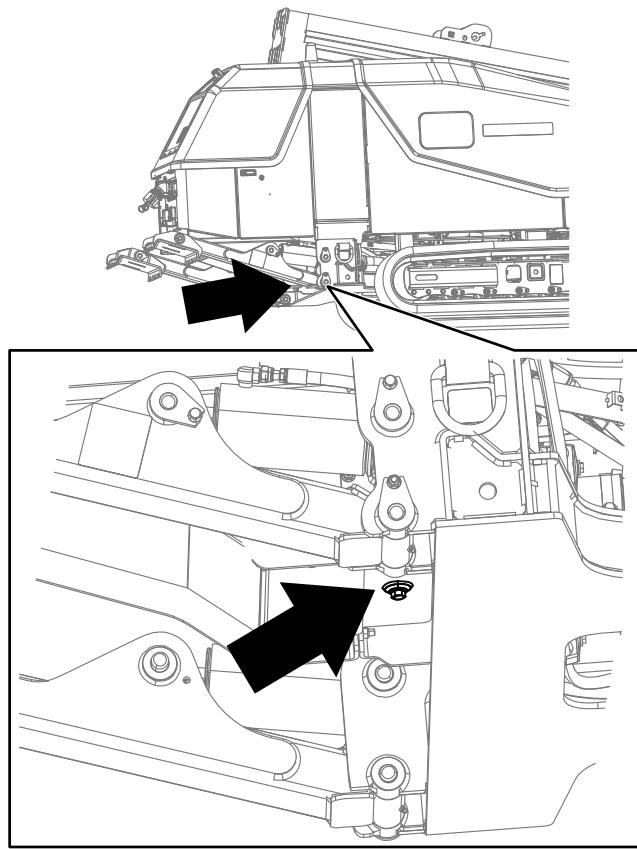

Figure 115
5. Remove the drain plug from the bottom of the tank (Figure 115).